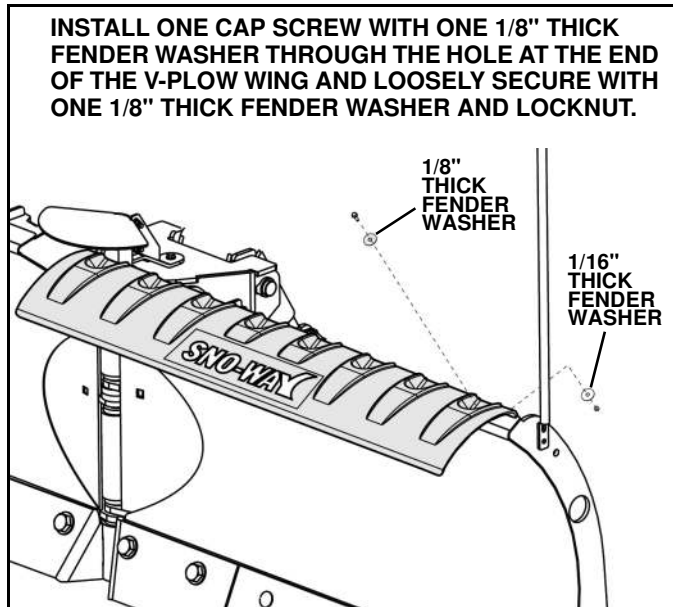

Figure 4
9. Position the DS Snow Deflector section (#1) to the outside top edge of the DS V-Blade wing. Clamp the deflector flat against the top of blade using a padded bus bar or spring clamp. Install (1) 1/4"-20 x 1-1/4" Hex Head Cap Screw (#4) and (1) 1/4" ID x 1-1/2" OD x 1/8" Thick Fender Washer (#5) through the hole in the deflector closest to the end of the blade. Loosely install (1) 1/4" ID x 1-1/2" OD x 1/16" Thick Fender Washer (#6) and (1) 1/4" x 20 Locknut (#7) on the cap screw. (See Figure 4.)